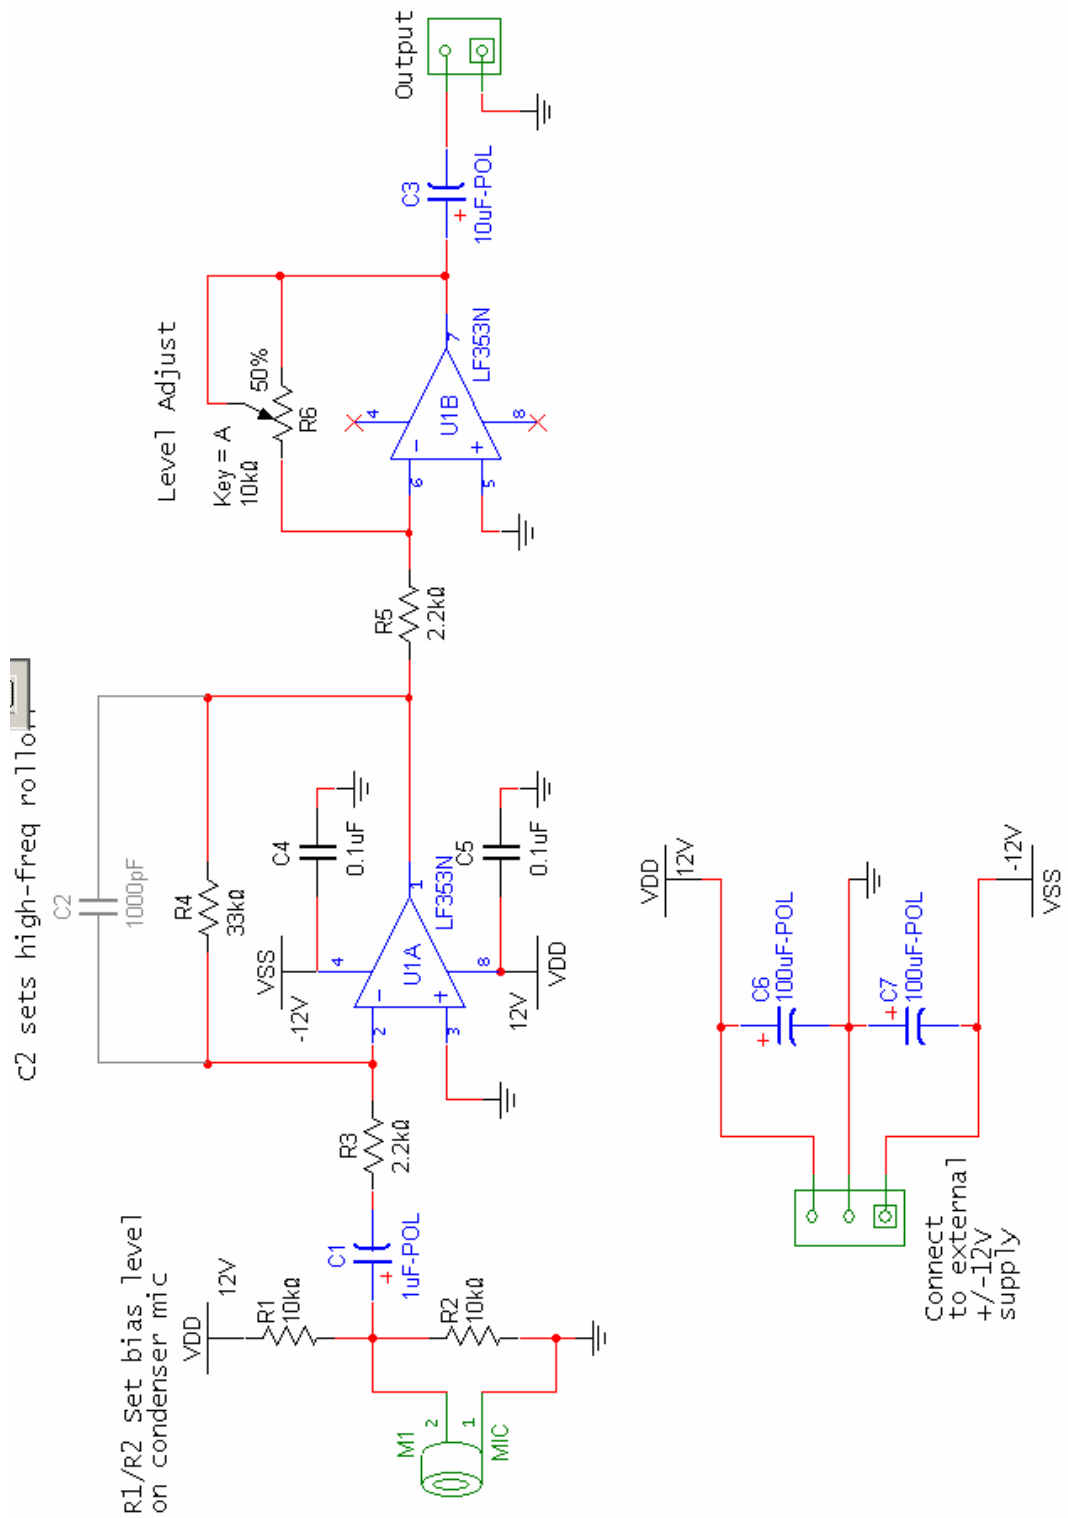

Figure 1-1 – Schematic for the microphone preamplifier.
- Configure your solderless breadboard with +/- 12 Volt and ground connections using the bench power supply. Add the large $100\mu\text{F}$ supply capacitors (C6 and C7) onto your breadboard as shown in the schematic in Figure 1-1.
- Now temporarily add in capacitor C2 (refer to the full schematic in Figure 1-1). This introduces another pole in the system to reduce the high-frequency gain (calculate it!). Sweep the frequency to determine the resulting upper cutoff frequency, and record this in the lab record along with the voltage gain in the passband (around 1 kHz). Remove C2 when you are finished.
- Add in the remaining circuit elements according to the schematic in Figure 1-1. This last step just adds a simple inverting stage that can amplify or attenuate the signal. This will be helpful later to adjust the microphone signal level for a desired amplitude to drive the AM modulator.